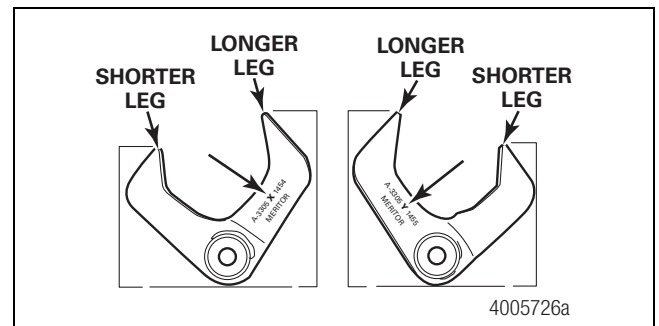
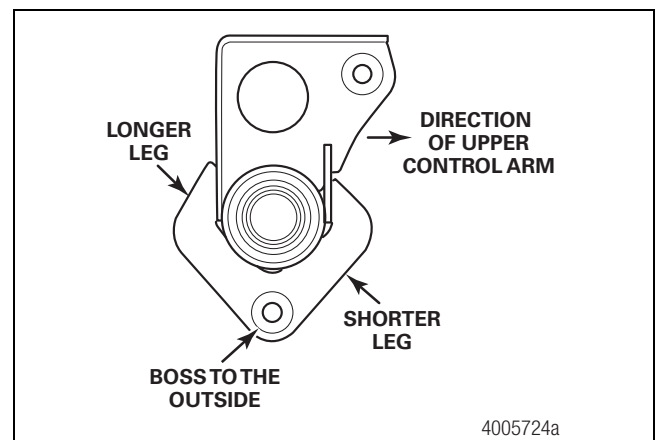

Figure 22
Figure 23
1. Assemble a pair of X and Y parts onto a bushing inner metal spacer. The bosses should be on the outside. Assembling the seats before welding will help ensure they are installed with the correct width. Figure 22.
2. Place the lower axle seats into position. Verify the shorter legs face towards the upper control arm. Figure 22 and Figure 23.